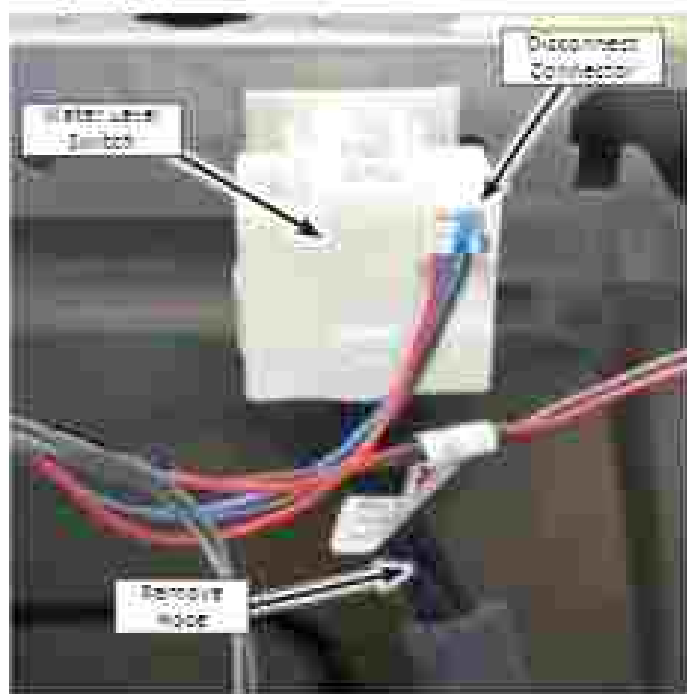

Figure 1 • Water Level Switch
6. Disconnect the pressure switch harness (see Figure 1). Press the clip away from the harness and slide out connector.